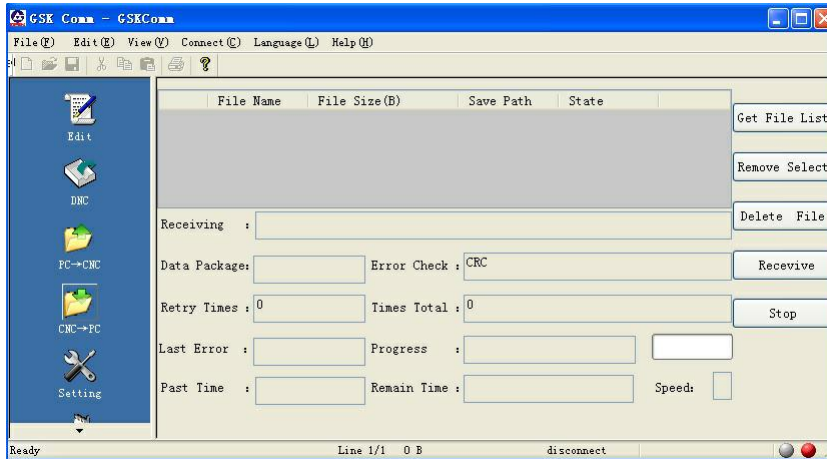

Fig.11-2-2-1
3. Click  to get the CNC-side file list, as shown in Fig.11-2-2-2.